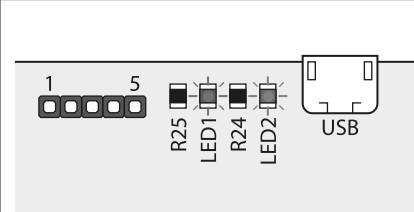

Fig. 45
6. After the 20 seconds both the red LED (LED1) and green LED (LED2) will switch **OFF**, followed by a brief pause, then both LED's will double flash quickly **ON** and **OFF**, as shown in **Fig.45**.